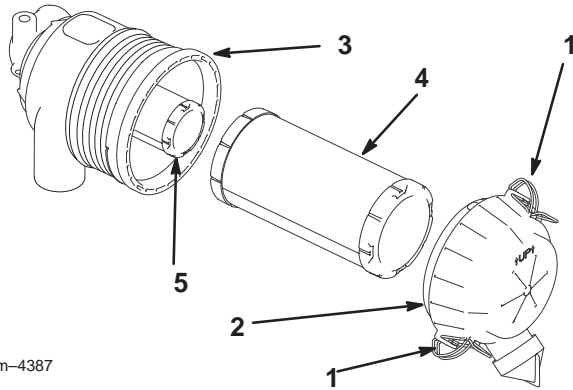

Figure 19
2. Release the latches on the air cleaner and pull the air cleaner cover off of the air cleaner body (Fig. 19).
4. Gently slide the primary filter out of the air cleaner body (Fig. 19). Avoid knocking the filter into the side of the body. Do not remove the safety filter, unless you intend to replace it as well.
2. If the safety filter is being replaced, carefully slide it into the filter body (Fig. 19).
3. Carefully slide the primary filter over the safety filter (Fig. 19). Ensure that it is fully seated by pushing on the outer rim of the filter while installing it.
4. Install the air cleaner cover with the side indicated as UP facing up and secure the latches (Fig. 19).